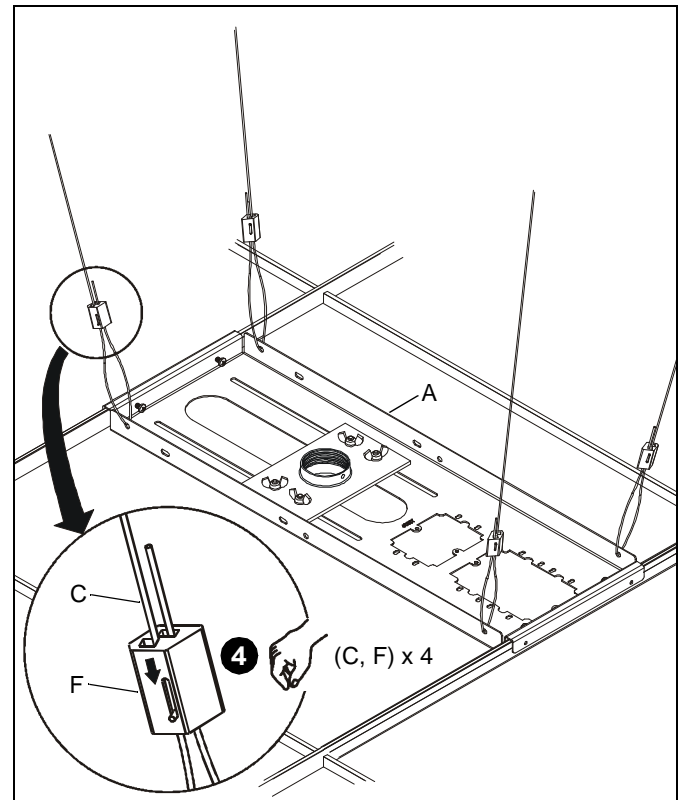

Figure 9
**CAUTION:** Failure to properly tension cables (C) may result in damage to ceiling tile framework!
4. Thread each cable (C) completely through cable lock (F), corresponding hole in corner of CMS440 assembly (A), and completely through opposite side of cable lock (F) (See Figure 9). Adjust cable tension until CMS440 assembly (A) is supported *entirely* and *evenly* by all four support cables, but not so tight as to distort ceiling tile framework.
**NOTE:** Cable lock (F) will allow cable to enter from only one direction per side, indicated by arrows on lock. Depress spring loaded pins on cable lock (F) to release cable tension.